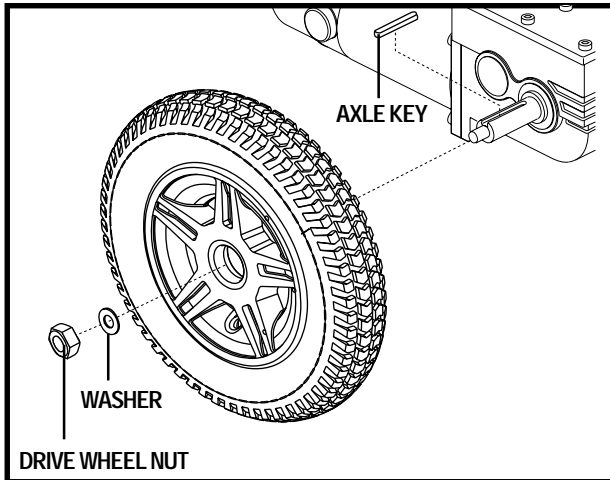

Figure 34. Quantum 600 XL Drive Wheel
4. Remove the drive wheel nut and washer from the wheel hub. See figure 34.